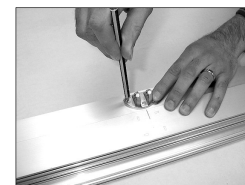

Fig. 4
- D. Line up the front bracket along the centre line on the moveable part of the frame and mark out the holes required for the screws (Fig. 4).
- D. Line up the front bracket along the centre line on the fixed part of the frame and mark out the holes required for the screws (Fig. 4).